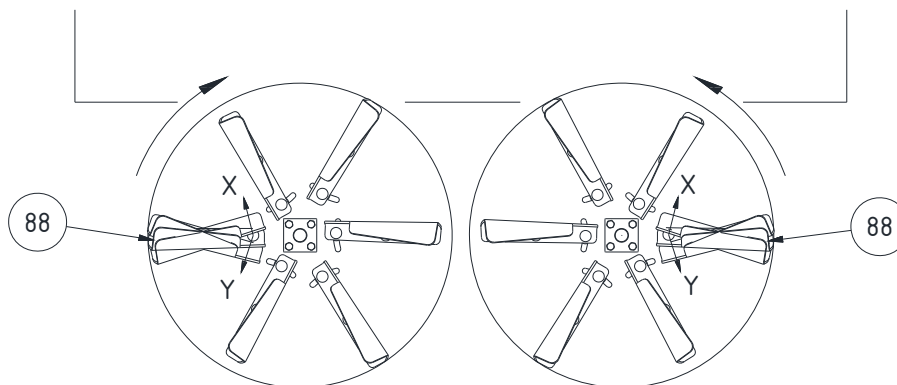

Fig.5: Spreading disc
- Rotating the spreading disks (Fig. 5)
(Fig. 5)